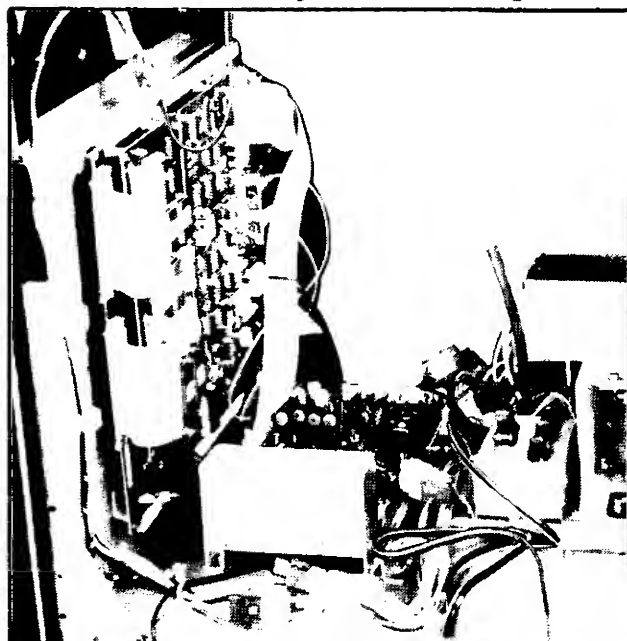

Figure 3-5 Removing the P.C.B.'s
1. UPRIGHT MODEL. See Figure 3-5.